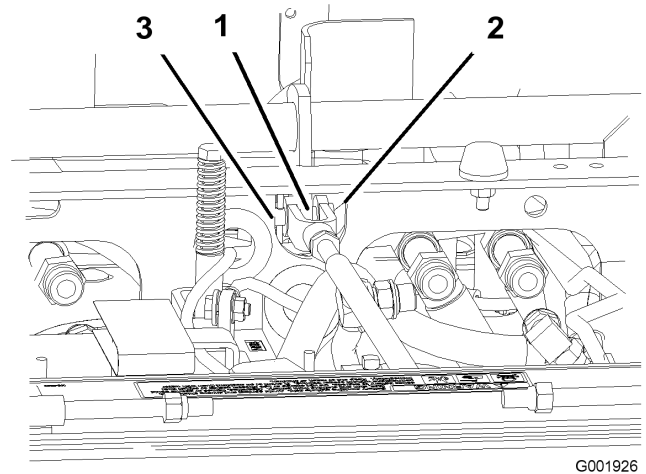

Figure 47
3. Measure the distance vertically between the front of the brake bar and the crown of the tire; the measurement should be 7/8 inch to 1 inch (22 to 25 mm) (Figure 47).
6. Adjust the yoke clockwise to shorten the distance; counterclockwise to lengthen distance (Figure 47).